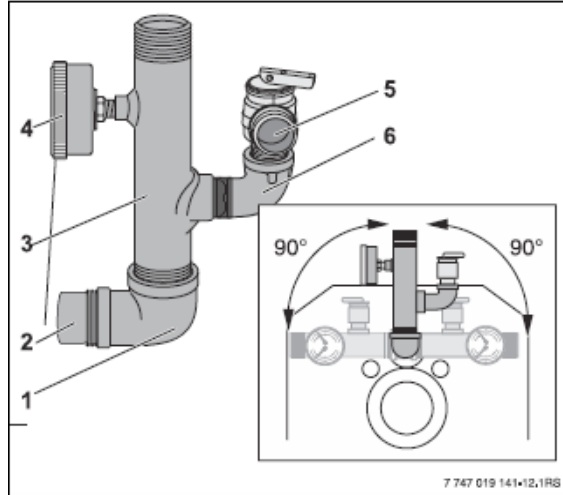

Fig. 5 Near boiler fitting (B-kit) installation
- Install supply manifold into the 90° elbow. (Fig. 5).
- Seal pressure relief valve connection (Fig. 5 "Installing B-Kit", page 16) and all other open connection with blind plugs.
- Installing pressure relief valve (Fig.5 "Installing B-Kit", page 16)